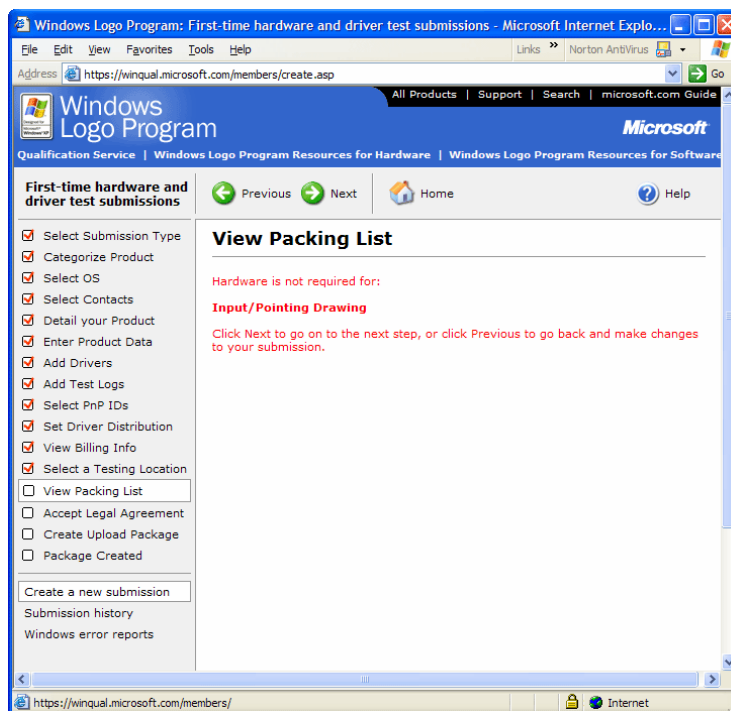

Figure 15-26. The packing list.
- Where do you want the testing performed? There are several WQHL testing sites around the world. In the United States, you'd pick the one in Redmond. This question is actually relevant only if your submission requires hardware. Mine didn't. (See Figure 15-26.) In fact, most WHQL tests at the time I'm writing this are self-test programs and don't require you to submit hardware.